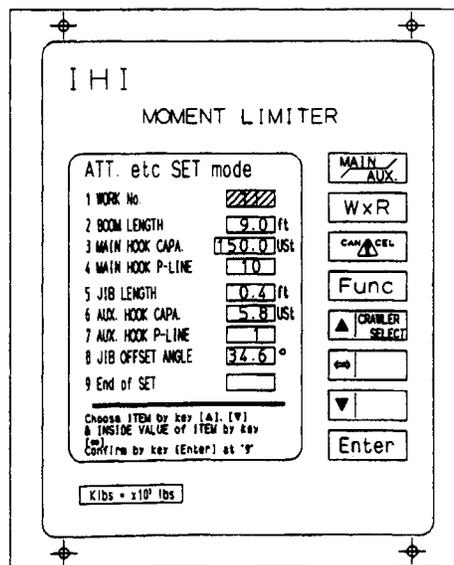

Figure 2
A. Bring the ATT. SET mode screen up on the Moment Limiter (see Figure 2) by pressing Func (Function).